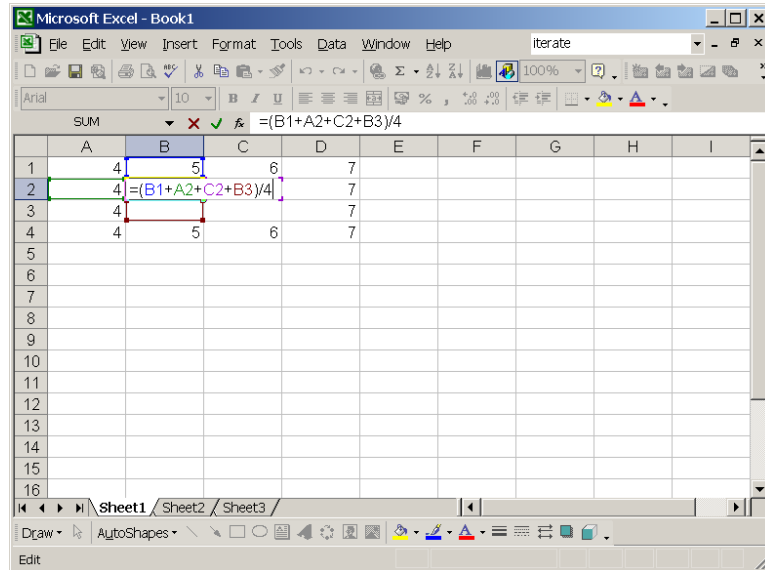

Figure 1.2: Entering the formula for Gauss-Seidel iteration in Excel.
- Type a formula in the upper left interior cells that calculates the average of the heads in the 4 neighboring cells (see figure 1.2).